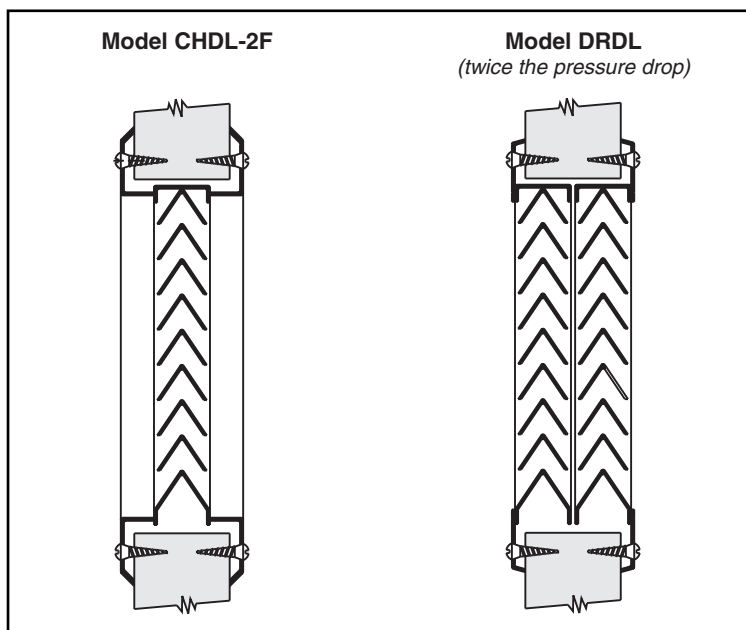

Figure 2. Equal Free Area
2. **Opening size (area)** – the size of the opening in the boundary (wall/door) also determines “how much” air will flow across the boundary. For example, if the pressure differential across the boundary is .05” w.g., and the opening size is doubled, then the amount of airflow through the opening will also double. Because a louver occupies the hole in the boundary and louvers vary in design and construction, the louver must be tested in a laboratory with actual airflow at controlled conditions to determine the relationship between size, airflow, and pressure. % free area has long been used as a convenient means to select louver size, but unfortunately, is NOT an indicator of louver performance (pressure drop and sound created). Louvers with identical free areas can have significantly different pressure differentials (see Fig. 2), so testing must be performed to accurately report performance.